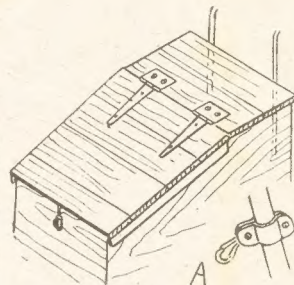

Fig. 3—Details of top and fixing
The remainder of the top covering forms the lid. Join the boards together with side strips of $\frac{1}{2}$ in. by 1in. wood, as seen at Fig. 3, and glue and nail the whole securely. Fix the lid to open up with a pair of iron T hinges, as shown, and to the front of the lid fix a hasp to accommodate a padlock fastener.
loop, and be bent and screwed to the fore-end of the trailer, as in the general view of the completed article. A simple form of attachment, to be fitted to the seat pillar of the bicycle, is shown at (A) in Fig. 3. To this is secured a large size dog-hook, which can engage the loop on the towing bar and form a safe connection. Do make sure it is quite safe with no chance of slipping.
For the deck we shall require a piece of $\frac{1}{2}$ in. wood, one of Hobbies MD8 panels is just the thing, and Fig. 3 shows how to mark in a number of oblongs 1in. by $\frac{1}{2}$ in. for enlarging to full size from the plan given. Follow the half plan, and run the outer thick line through the lines of each oblong. Then trace this off on to thin transparent paper and turn it over and transfer the curved outline direct to the wood and to a common centre line previously drawn on the wood.